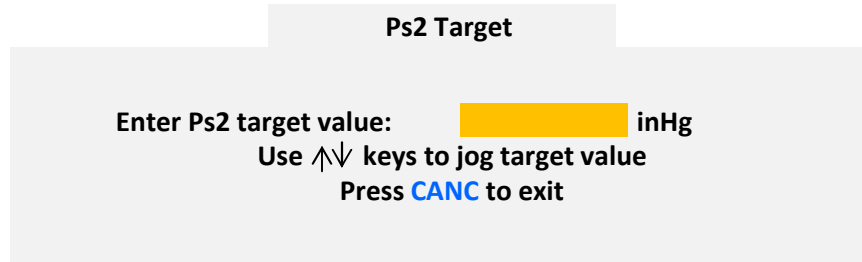
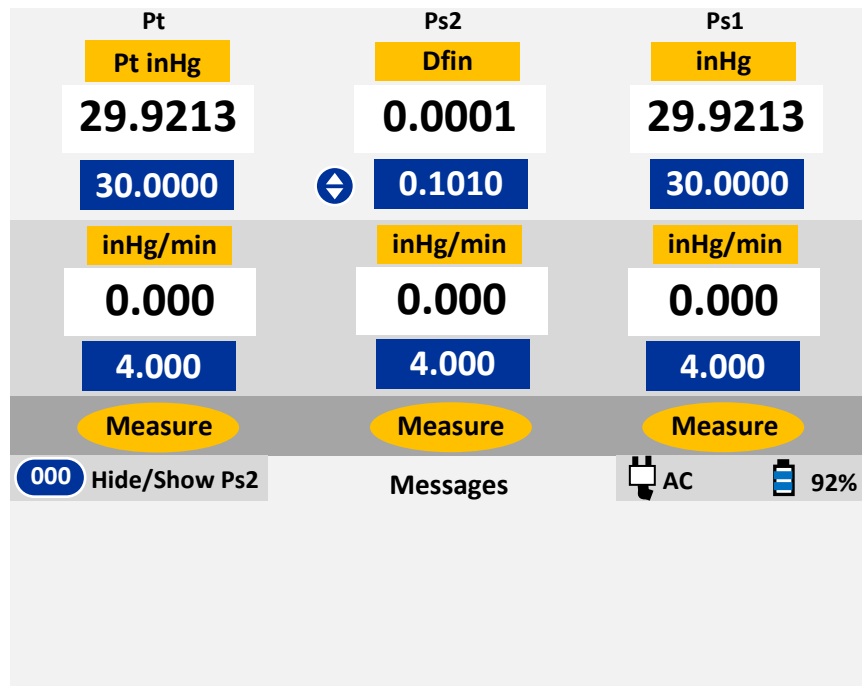

Figure 3.15 : Ps2 Target value
Figure 3.16 : Jog the Ps2 Target value
The Ps1 Target value can be changed only if the key# symbol (6) is displayed to the right of the Ps1 Target value field. Press key '6' on the keypad and the Lower section of the display will appear as shown in Figure 3.15 below.
If the Target value needs to be changed in small increments, instead of entering a value, the arrow keys may be used to Jog the Target value up or down. If the current Ps2 Target value is 0.1000 Dfin, and the Lower screen appears as in Figure 3.15 above, pressing the **Up-Arrow** key will make the screen appear as shown in Figure 3.16 below.